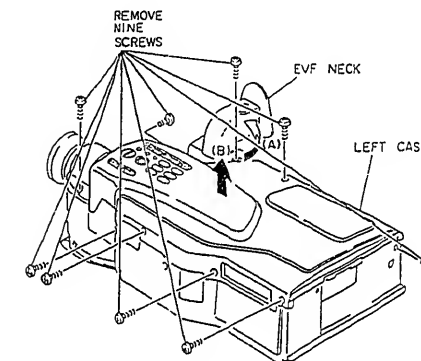

Fig. 2-1
1. Turn the EVF neck in the direction of arrow (A). (See Fig. 2-1)
2. Remove nine (9) screws holding the left case.
3. Open the left case in the direction of arrow (B).